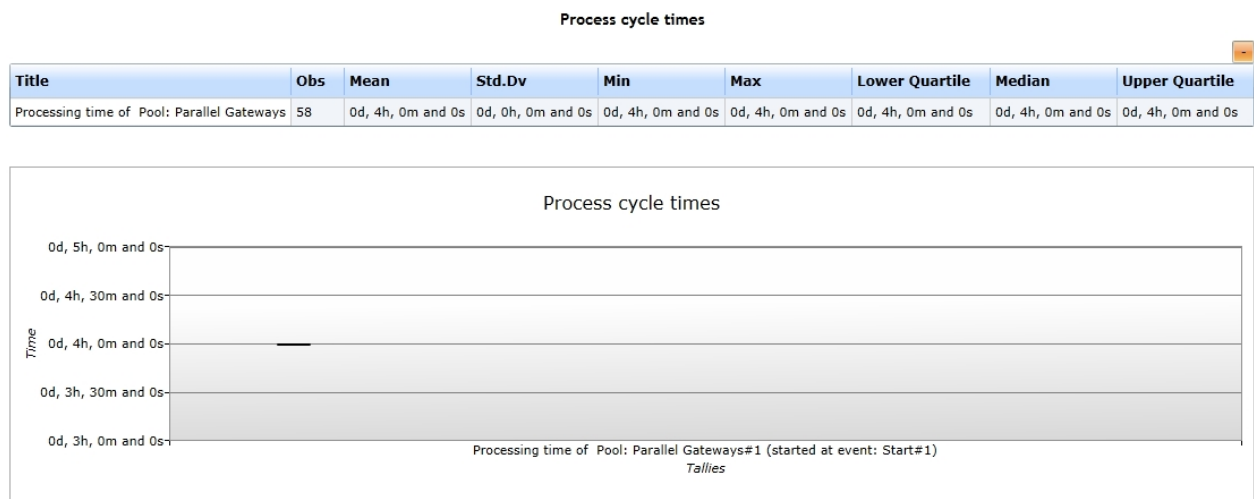

Figure 1: Process cycle times of Model 2
- Also note: The box-plot from Figure 1 below is nearly invisible.